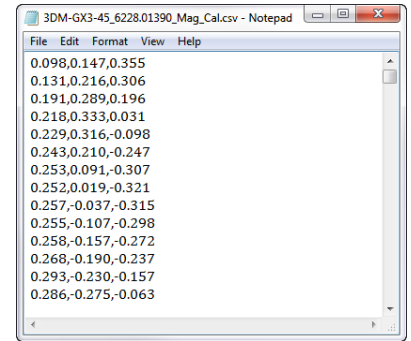

Figure 2: CSV file viewed in Notepad
- Figure 2 shows the file structure, as viewed in Notepad.
- In figure 2, we see in line 1 an X value of 0.098, a Y value of 0.147 and a Z value of 0.355.